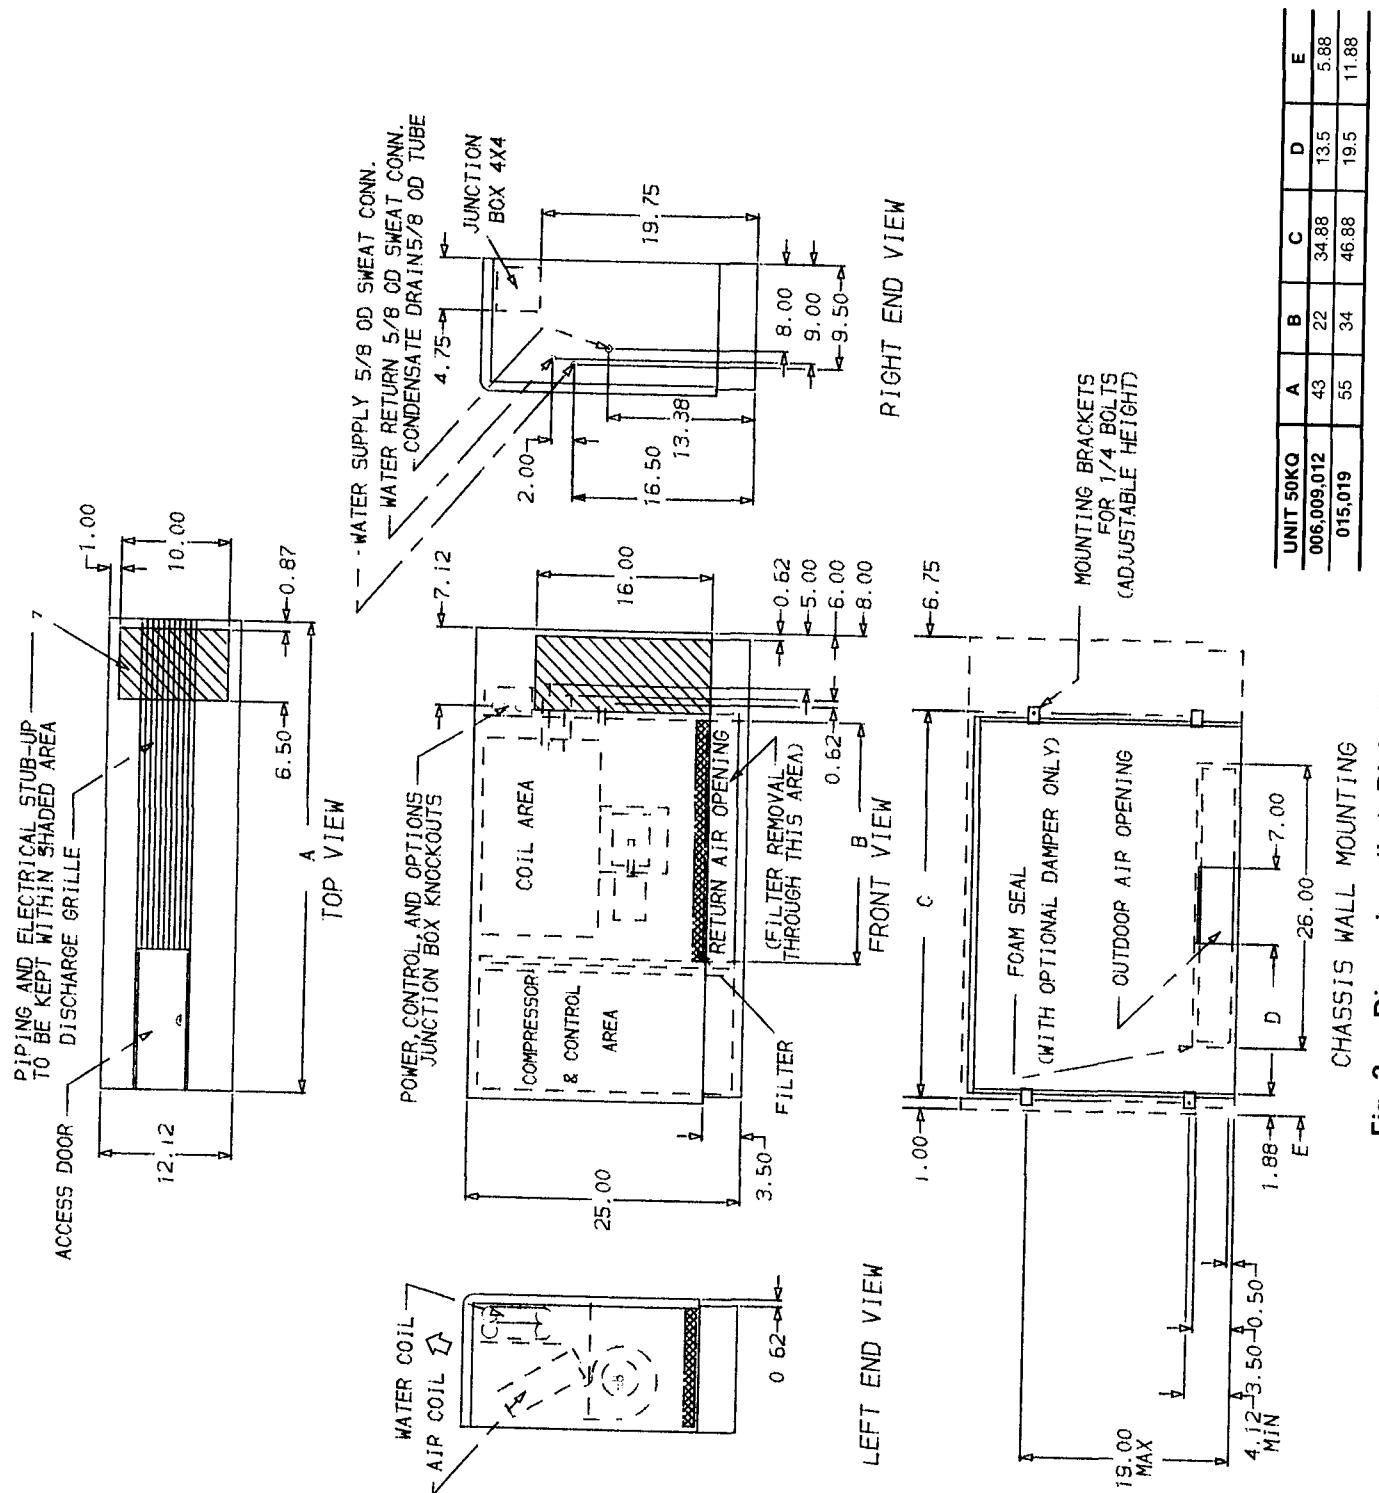
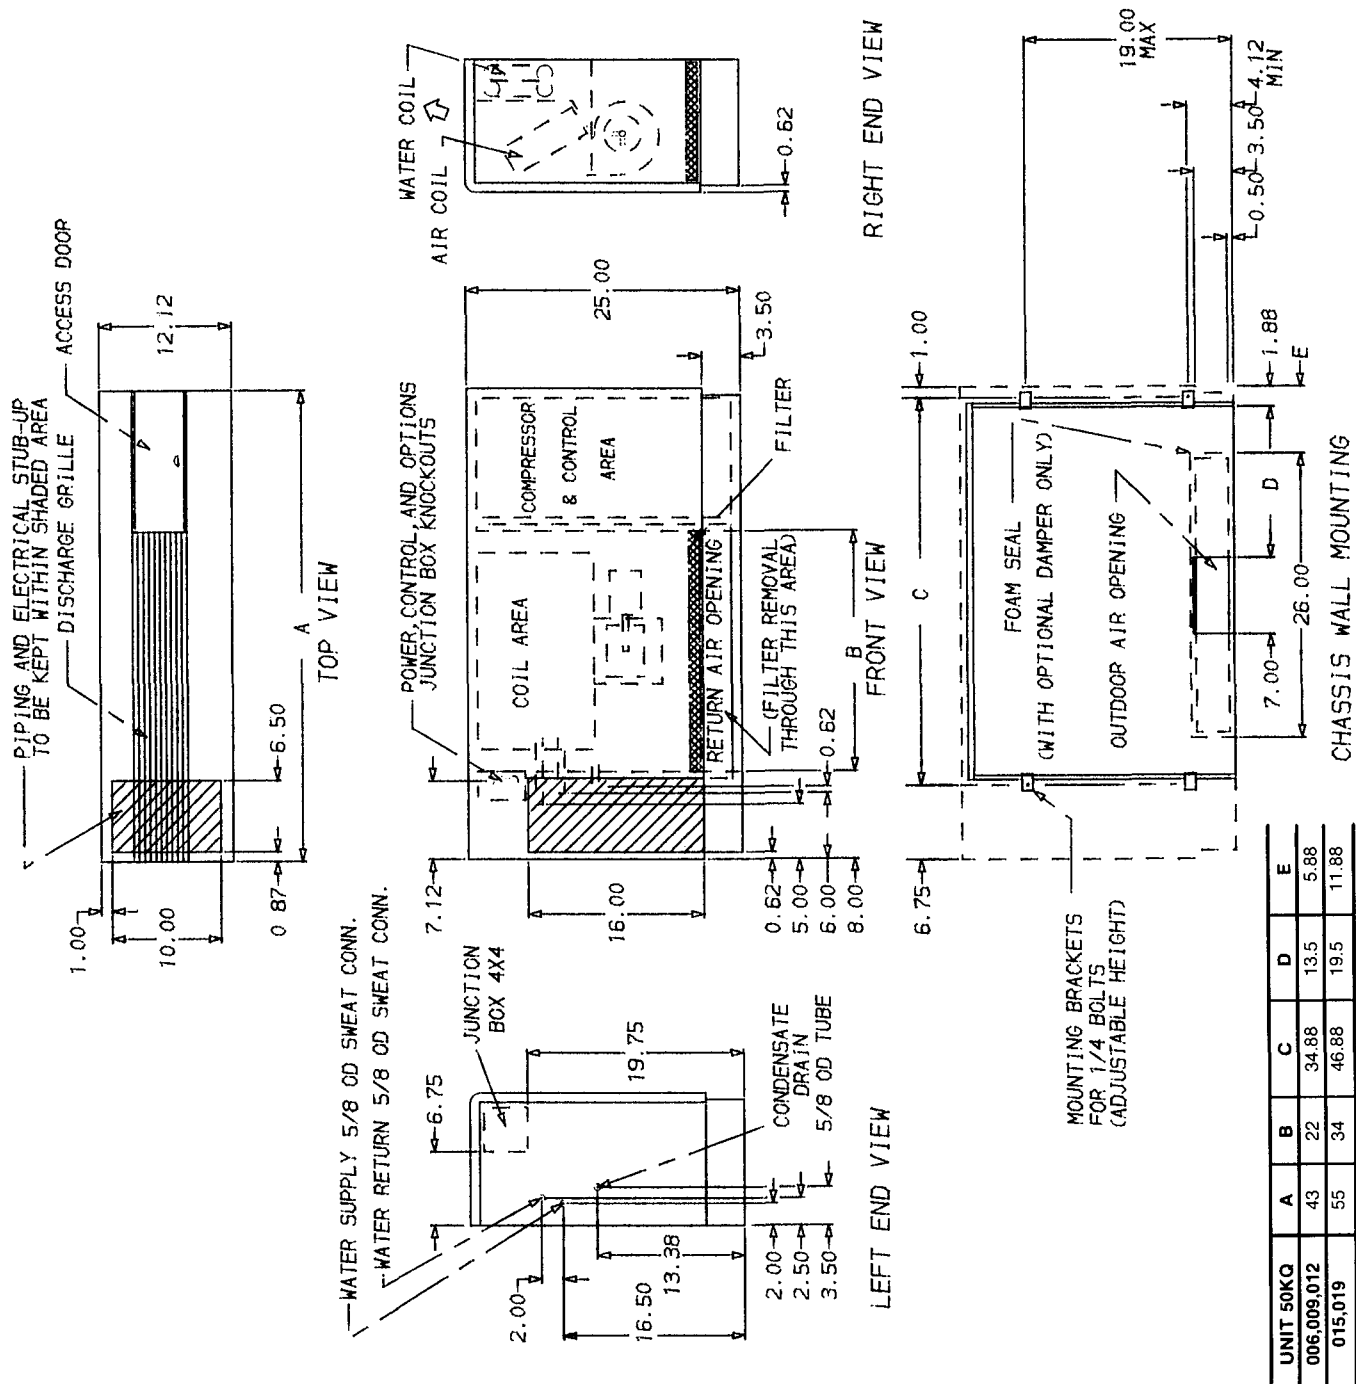

Fig. 2 — Dimensions (in.), Right-Hand Stub-Up
Fig. 3 — Dimensions (in.), Left-Hand Stub-Up
3. Provide sufficient space for water piping, condensate drain, wiring, and servicing unit. See Fig. 2 and 3.
MAKE CONDENSATE DRAIN LINE CONNECTION to connection provided on unit, Fig. 2 and Fig. 3. Install a trap in condensate line as close as possible to unit. Trap must be at least 3 in. deep and not higher than the bottom of unit condensate drain opening. Pitch condensate line to open drain or sump.